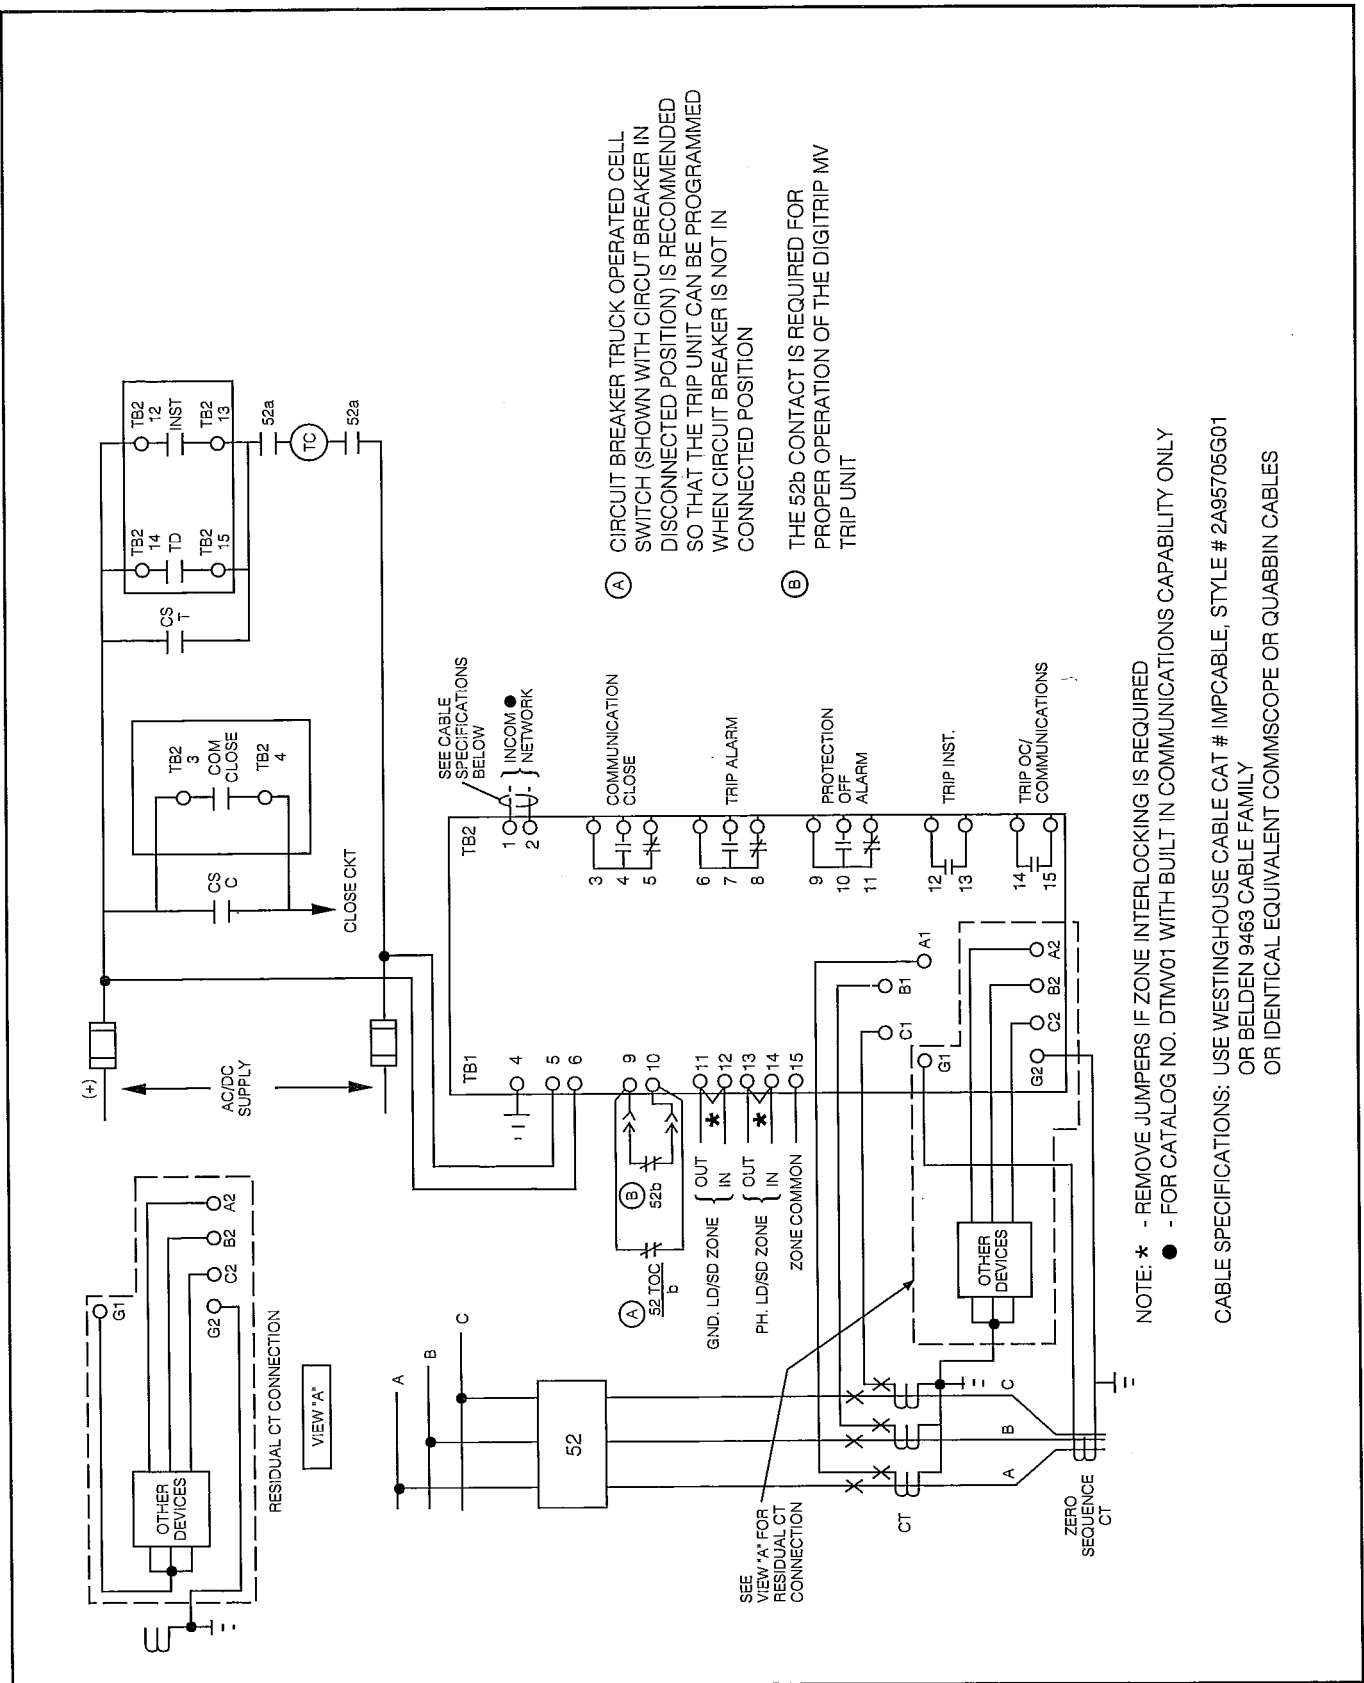

Figure 3-1 *Digitrip MV Typical Wiring Diagram*
The Digitrip MV Trip Unit requires that a customer supplied source of input control power be wired into the TB1 terminal block located on the rear panel. Refer to the typical wiring diagram in *Figure 3-1*. A power supply can be either AC or DC voltage within the acceptable voltage ranges outlined in Paragraph 2-3 entitled "Specification Summary."
This section specifically describes the operation and functional use of the Digitrip MV Trip Unit. It does not address in detail rear power connections and DIP switch settings for current transformer selections. These topics are covered in SECTION 5 entitled "INSTALLATION/TESTING/STARTUP." It would be helpful, however, to become familiar with the trip unit's wiring diagram before proceeding with the rest of this section (*Figure 3-1*).
1) The Program Mode cannot be entered if the circuit breaker is closed. The circuit breaker position is determined via the normally closed breaker "b" contact on terminals 9 and 10 of TB1. Refer to the typical wiring diagram in *Figure 3-1*.